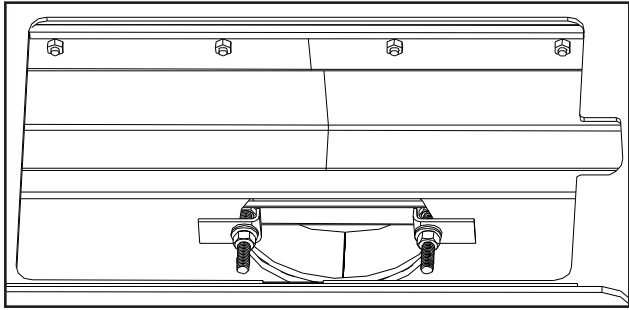

Figure 14: Removable flue collar in place.
F) Place the Collar Puller, over the two bolts of the Flue Collar and pull it into place (see Figure 14). Ensure that the bolts are to the left and right of the hole. If they are not, the front secondary air tube will need to be removed in order to install or remove the C-Cast Ceramic Baffles.
H) Re-install C-Cast Ceramic Baffles and the rear two (2) secondary air tube (see C-CAST CERAMIC BAFFLE INSTALLATION).